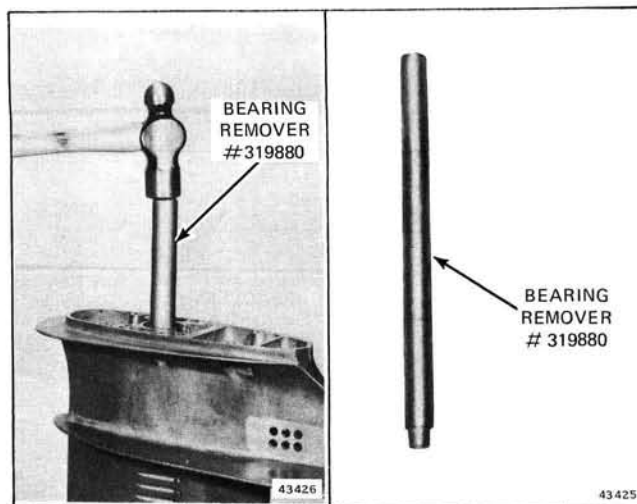

Figure 6-34. Removing Pinion Bearing
13. Using bearing remover (Special Tool #319880) drive driveshaft lower bearing out of gearcase. See Figure 6-34.